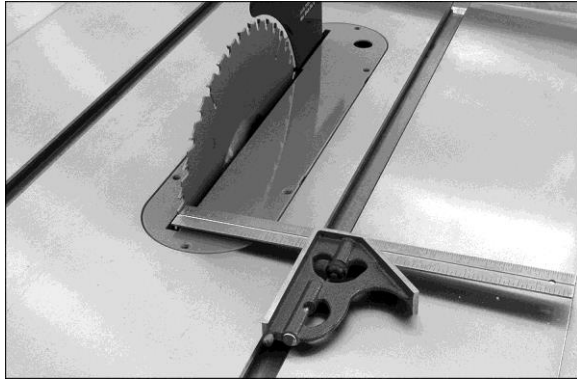

Figure 18
- Use the right T-slot as a shoulder for a combination square. See Figure 18.